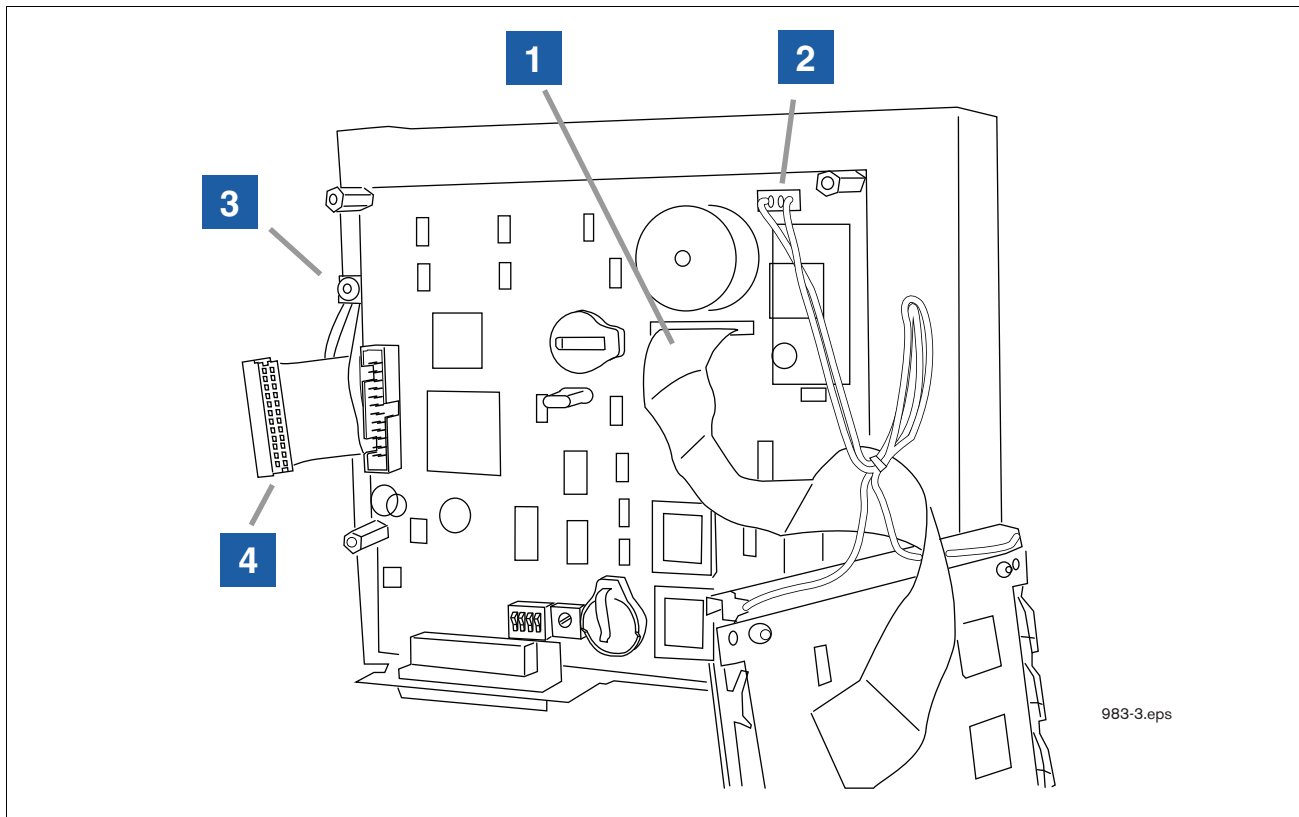

Figure 3. Removing the display
- 1 Hold the display and pull up the ribbon cable from its connector on the CPU board (item 1 in Figure 3) and remove the 2-wire plug (item 2 in Figure 3) at the top of the CPU board. Carefully set the display aside.
- 2 Using the T-15 torx wrench, remove the ground wire saddle clamp on the inner door (item 3 in Figure 3).
- 3 Remove the ribbon cable from its connector on the edge of the CPU board (item 4 in Figure 3). Notice the orientation of the ribbon cable in the connector as it will connect to the new CPU board in the same way.